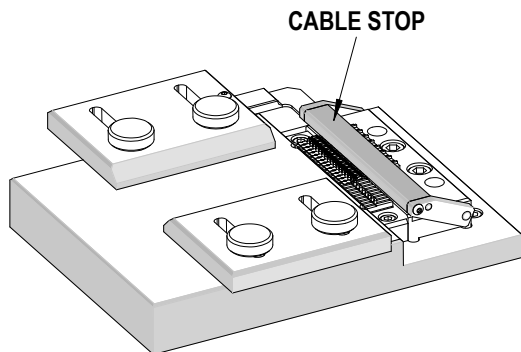

Figure 2-6
- Lower the cable stop onto the connector. See Figure 2-6).